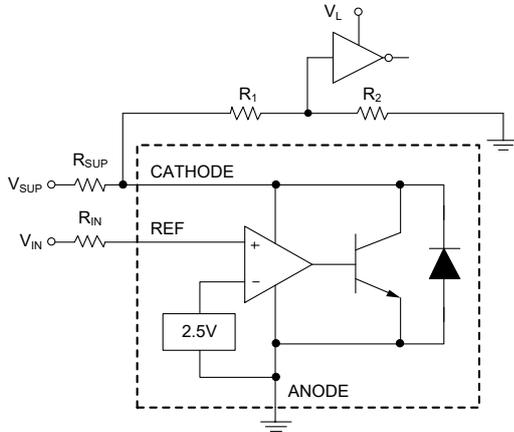
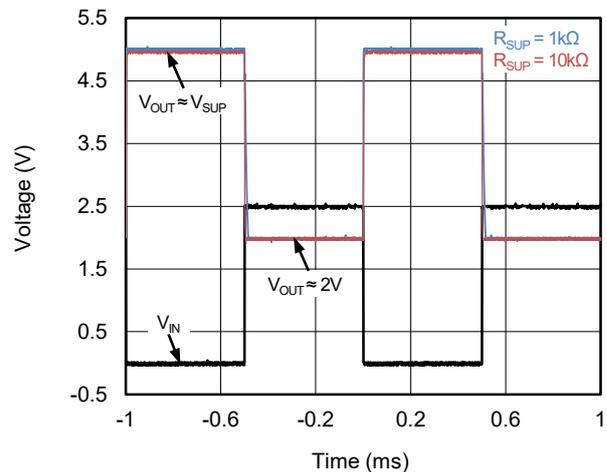

Figure 3. Comparator Application Schematic
Figure 4. Output Response with Various Cathode Current
As shown in Figure 3, the LM431BQ is always used as a comparator with 2.5V integrated reference in application, for this design, the parameters are listed in Table 1. The REF pin voltage is compared with reference inside and is amplified. Also, the LM431BQ responds fast if the operation current I_{KA} is large enough. In Figure 4, it is clear to see that the output response with $R_{SUP} = 1k\Omega$ is much faster than $R_{SUP} = 10k\Omega$. The maximum cathode current of I_{MIN} is 0.7mA, any cathode current below this value will cause a low response (low open-loop gain) for the application of comparator.
The input resistance should be less than 10k Ω in order to minimize the voltage drop between V_{IN} and V_{REF} . The readability of the logic output of the comparator should be guaranteed so that it can be received by the next stage. In Figure 4, the V_{IL} of the comparator logic is 2V, which is sufficient for a 5V supply voltage. However, for the logic stage which is powered by 1.8V or 3.3V, the V_{IL} is hard to be figured out. To accommodate this, a voltage divider should be taken into account. Due to the Open-Collector (OC) output stage, the V_{IH} is equal to the voltage of its power supply. When the voltage divider is used to attenuate V_{IH} , please make sure that the sum of R_1 and R_2 is greater than the resistance R_{SUP} to the power supply.